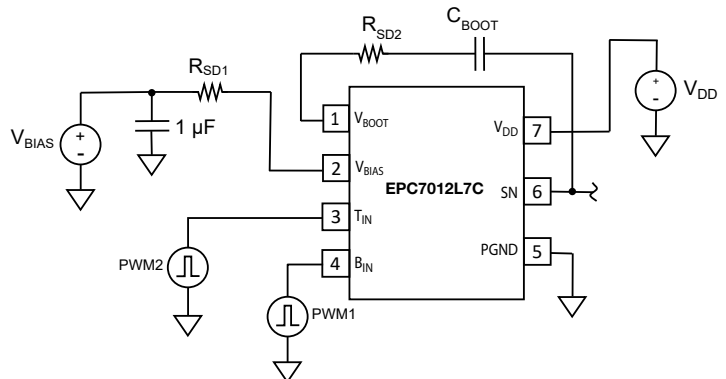

Figure 3. External Slow-Down Resistor Connections
The EPC7012L7C is designed to be a high-speed power driver. As such it has extremely fast switching node (SN) rise and fall times by design. Fast rise and fall times can and will result in unwanted voltage spikes at the  $V_{DD}$  and PGND pins due to any parasitic layout inductance ( $V_{SPIKE} = L_{Par} \cdot di / dt$ ). If as a result of the optimized PCB layout that these spikes cannot be reduced to an acceptable level, it is recommended that two resistors be added to the circuit to decrease the slew rates of the low-and high side gate drive signals, which in turn decreases the slew rates of the switching node rise and fall times. These resistors,  $R_{SD1}$  and  $R_{SD2}$  are shown in Figure 3.